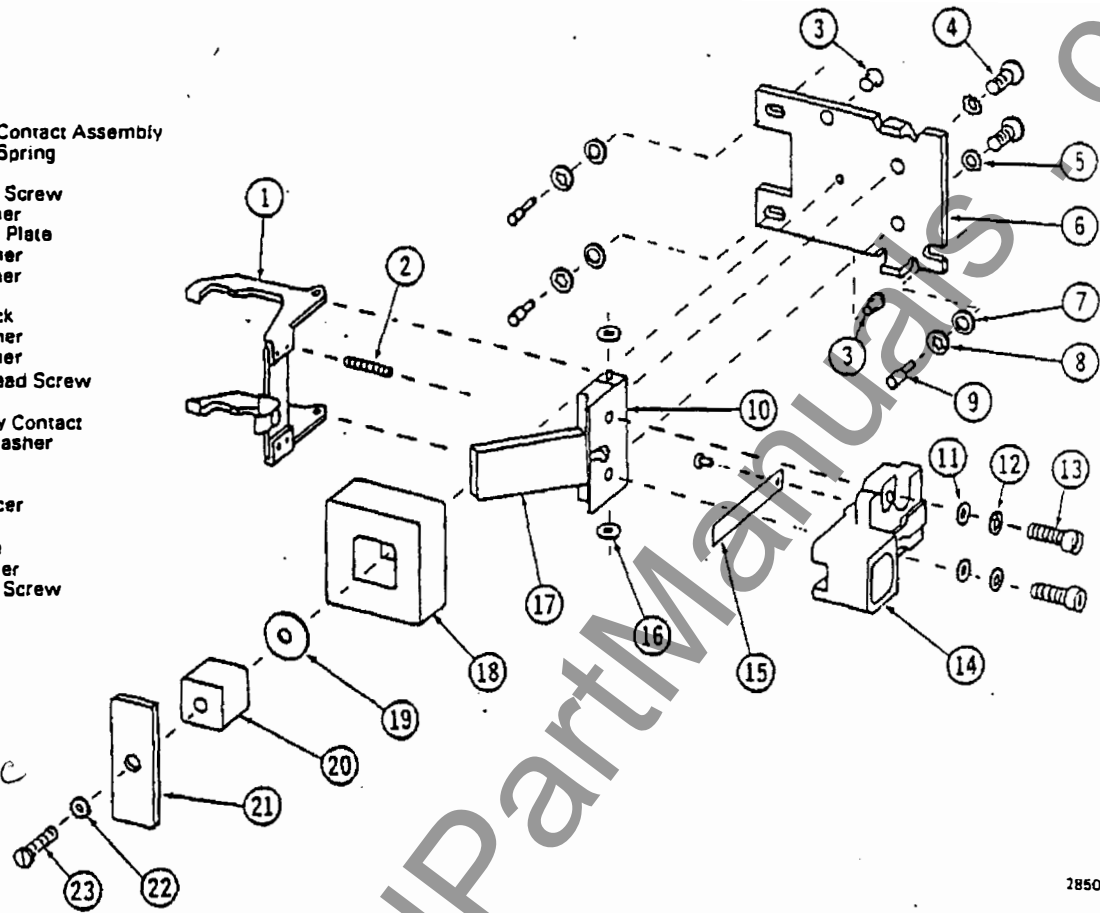

Fig.5 - Pilot Contact-Latch Assembly, Exploded View
1. Proceed as described under "stationary contact removal" until step (3) is completed.
2. Following removal of housing (14 fig 5) remove leads from arc chute interlock and free wiring from its cable clamp.
4. Remove the three attaching screws (9 fig 5) from the mounting plate.
7. With pilot contact latch removed - remove pivot block retaining screws (4 fig 5) and remove pivot block (10 fig 5) and attached armature (17 fig 5).
8. Spread legs of movable contact assembly (1 fig 5) one at a time until they are clear of the pivot pins in the pivot block - remove movable contact assembly. Install new movable contacts assembly.